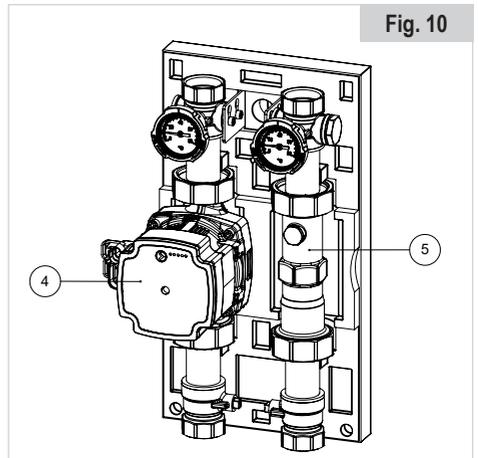

Fig. 10
- Invert the position of the circulator (4) and the connection pipe (5) paying attention to the flow direction indicated by the arrow placed on the body of the circulator and to the direction of the check valve inside the connection pipe (see Fig. 10).